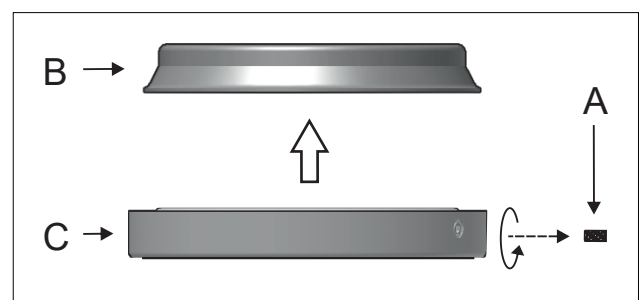

Figure 1
1 - Unscrew the side screw (A) to remove the mounting bracket (B) from the canopy (C). Figure 1.